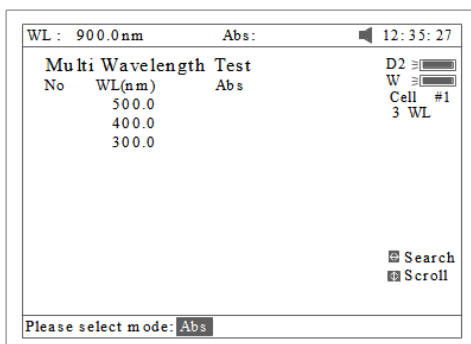

Fig 70
2. Press **【F2】** to select mode (Fig 70).